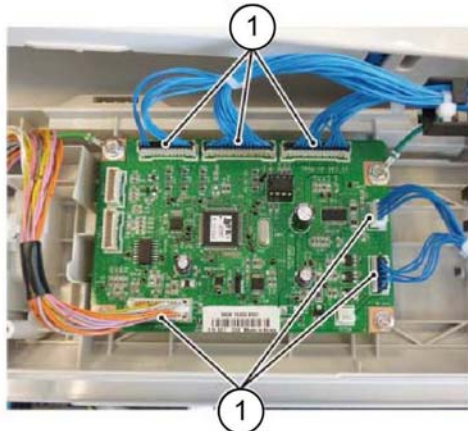

Figure 2 Connectors
3. Disconnect six connectors (1), Figure 2.